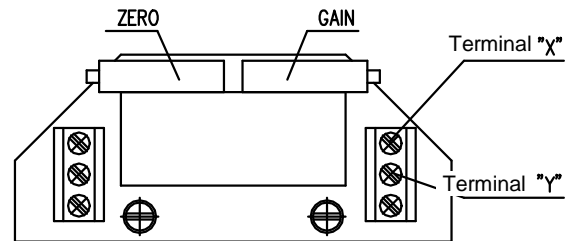

Fig. 7
#### 4.4.2 EPV – 3-wire version (Fig. 7,7a)
- Adjust the resistive transmitter according to the previous chapter. The resistance is to be metered on the terminals X-Y (Fig. 7,7a). The used transmitter resistance is 2000  $\Omega$  or 100  $\Omega$ .